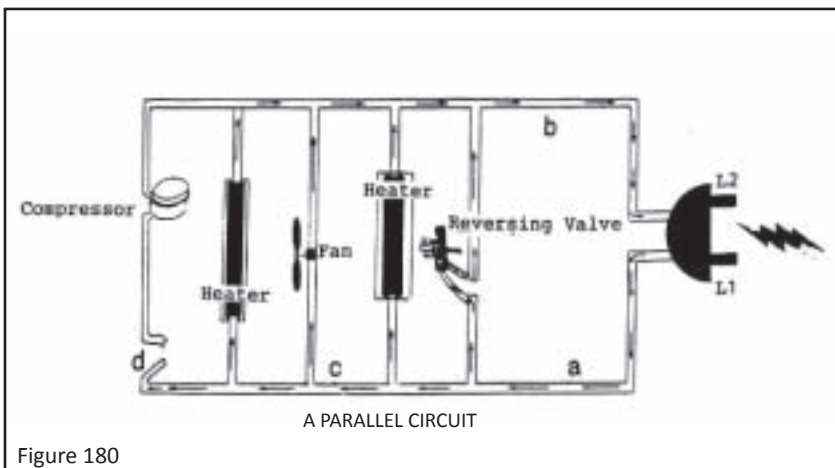

Figure 180
2. *Parallel circuit.* In this circuit, there is more than one path for the current to flow. In figure 180, below, if current flow were interrupted at point a or point b, nothing in the entire circuit would work. Current starting at L1 would not be able to reach L2. If power were interrupted at point c, only the forward heater and the reversing valve would remain active, while the rest of the circuit behind point c would not be energized. If the interruption were at point d, only the compressor would become de-energized while the rest of the system would remain active because the current flow would reach L2 through other branches in the circuit.
This type of wiring is used for applications in which the whole system is not intended to shut down when only one component becomes de-energized or defective. When this happens, current continues to flow through the other paths to complete the circuit. This type of circuit is found in household refrigerators. For example, when the refrigerator lamp becomes de-energized when the door is shut, other components such as the motor compressor, etc., in the system stay energized. Note that in the simple parallel circuit of figure 180, the broken wire near the motor does not interrupt the current flow to the rest of the circuit. The heaters, the fan, and the reversing valve remain active because current can still flow through these components and complete its unbroken paths.